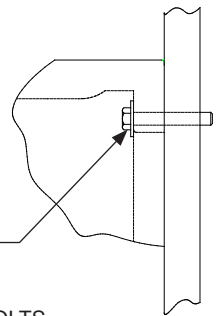

**FIG. 1**
1. Wall should already be framed for the fountain using dimensions shown in Fig. 1. Shown dimensions pertain to installation location. These dimensions are required for compliance with ANSI Standard A117. 1. and ADA (Framing shown for reference only).
5. Connect drain and water supply lines to the freeze resistant fountain. Refer to Figure 1 for component positions. Inline strainer must be used on the inlet water line.